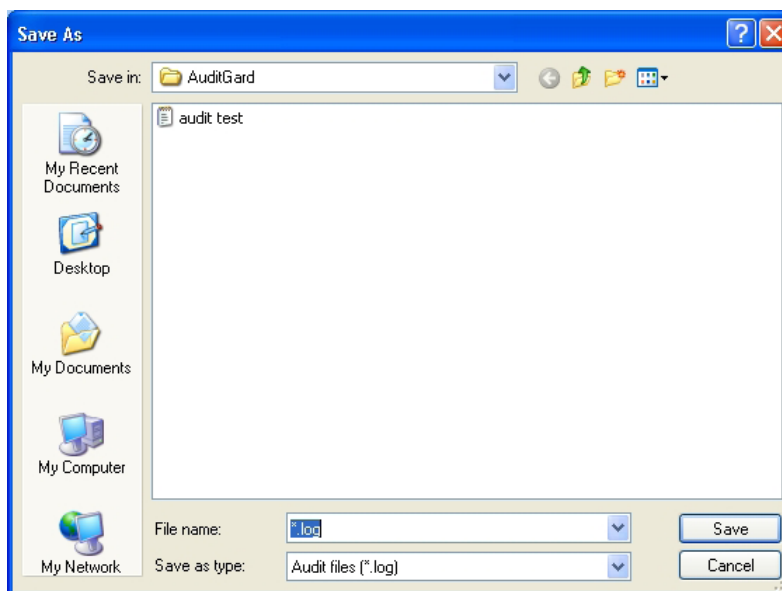

Figure 23
2. Select the desired audit file to view and click the **Open** button (Figure 23).